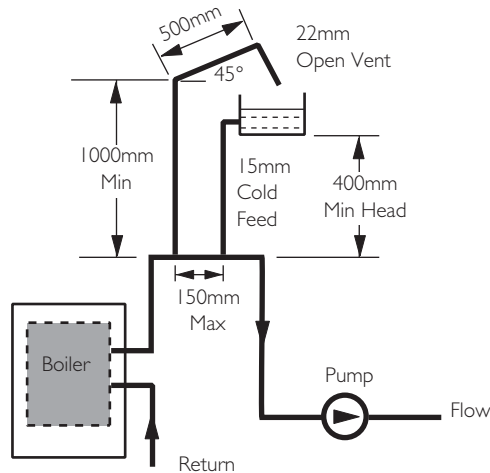

Fig. 10 Typical Low Head Installation
1. Using a close couple arrangement the minimum head is as shown in the diagrams (Figs. 10 & 11) subject to the following conditions: